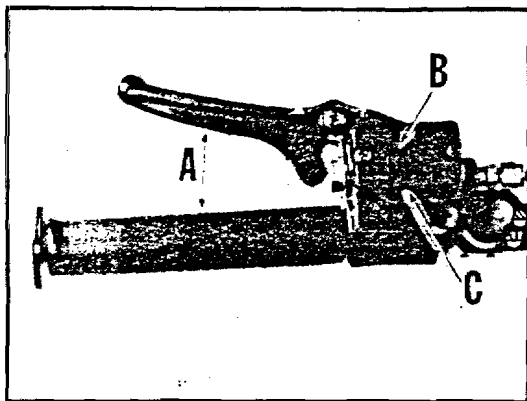

Figure 1
At reasonably frequent intervals, the brakes should be inspected for brake lever reserve. This is done by measuring the clearance between the lever and handlebar grip. Inspection should be made with the lever firmly depressed. Lever reserve should not be less than 1/2" (A) (figure 1).
2. **Fluid Reservoir** — If master cylinder reservoir is empty or low, remove cover (B) (figure 1), add fluid as required to bring level 1/8" below lip of reservoir opening.